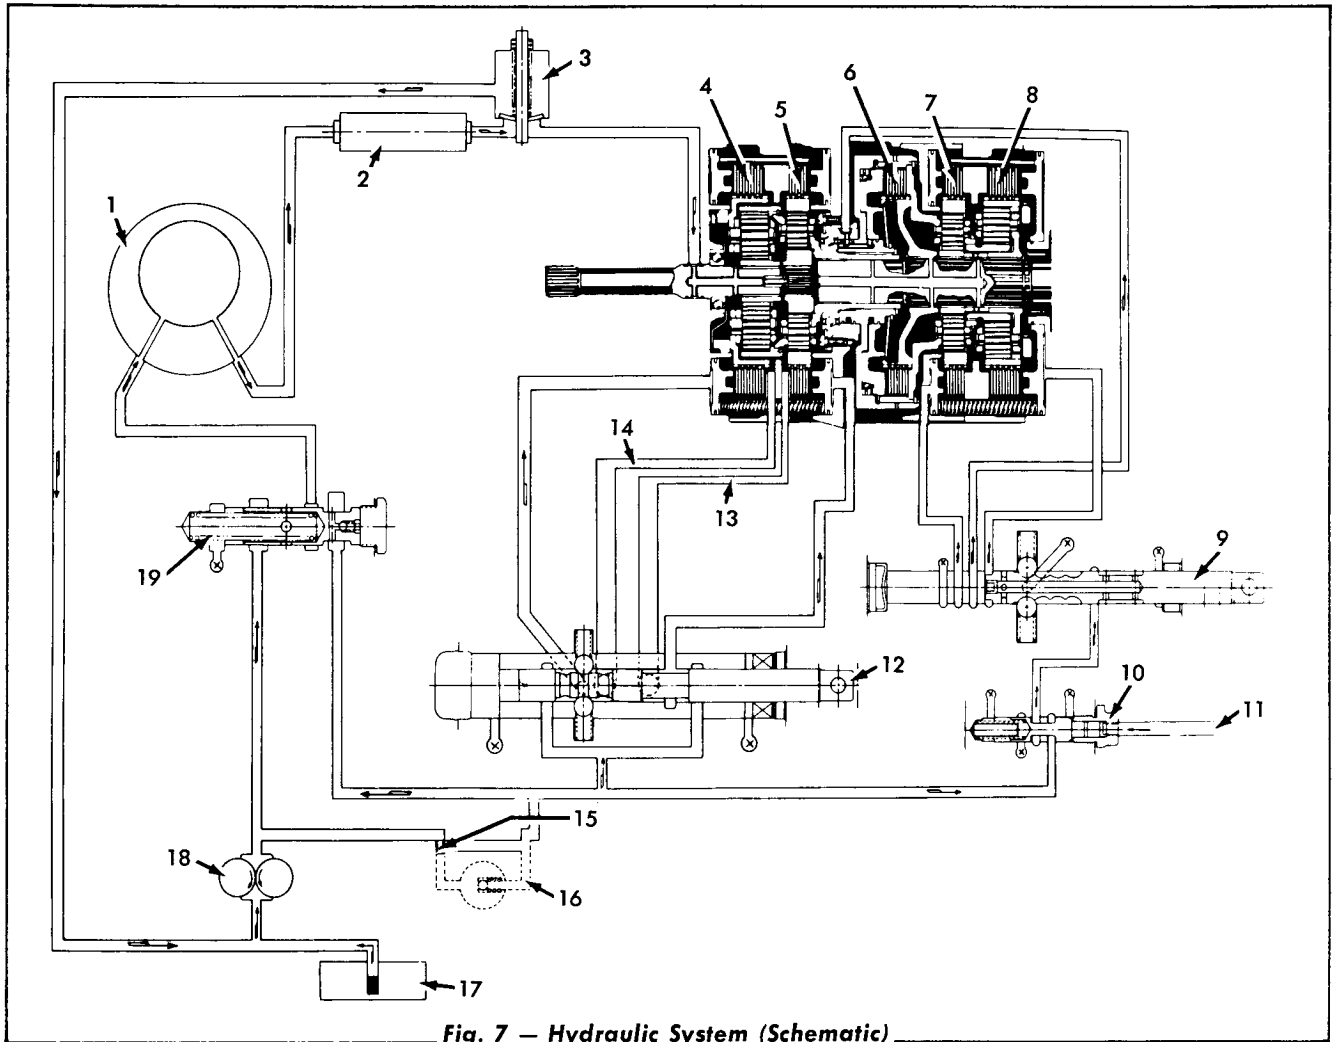

Fig. 7 — Hydraulic System (Schematic)
Referring to Figs. 7 and 8, notice that no power flows through the transmission because none of the direction or range clutches are applied. Their lines are open to the sump through the forward and the reverse valve, and the range selector valve.
3. Low Forward Range (Figs. 7 and 9)
Referring to Figs. 7 and 9, notice that when the shift control lever is moved into low range position, the range selector valve directs the main oil pressure to the low range clutch to actuate the clutch. When the direction lever is moved into the forward
4. Intermediate Forward Range (Figs. 7 and 10)
5. High Forward Range (Figs. 7 and 11)
6. Low, Intermediate, and High Reverse Ranges (Figs. 7 and 12 through 14)